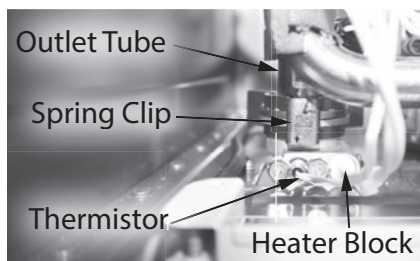

Figure 229 - Outlet tube location
**17** Locate the spring clip (size 30) at the base of the outlet tube. See Figure 229. Remove and set this clip aside in a safe place for reinstallation.
**19** Locate the two (2) screws securing the thermistor and heating block to the outlet assembly. Use a Phillips screwdriver to remove the screws. Place screws aside in a safe place for reinstallation. See Figure 229.